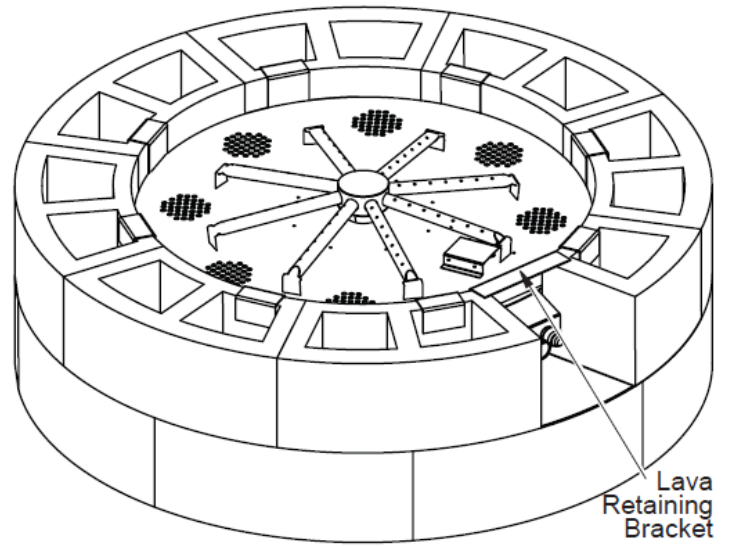

Figure 15 - Lava Retaining Bracket
11. Place lava retaining bracket as shown in Figure 15.